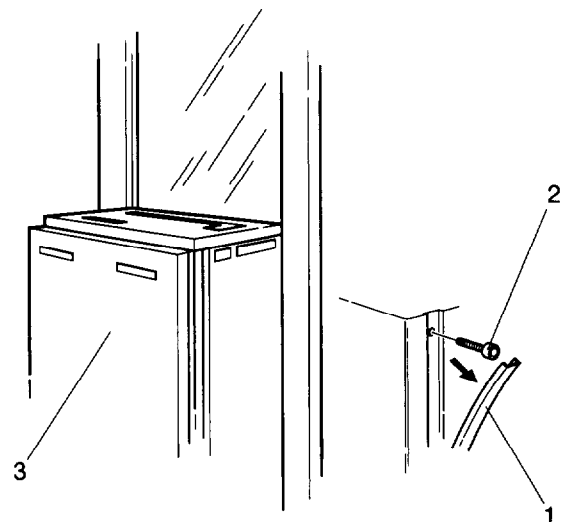

Fig. 4
- Generator front cover(3/Fig. 4).